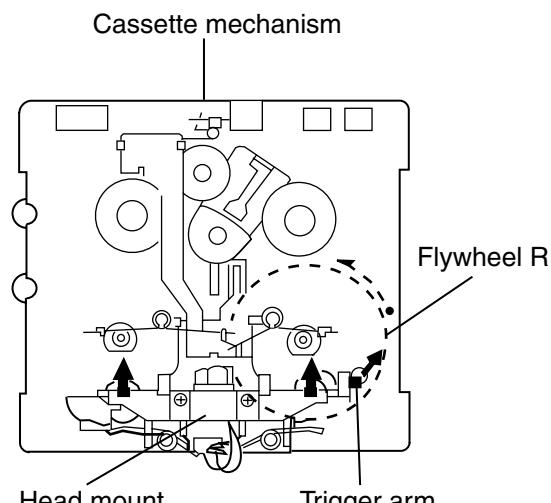

Fig.1 (Mechanism A side)
■ Removing the Playback, Recording and Eraser Heads (See Fig.1~3)
1. While shifting the trigger arms seen on the right side of the head mount in the arrow direction, turn the flywheel R in counterclockwise direction until the head mount has gone out with a click (See Fig. 1).